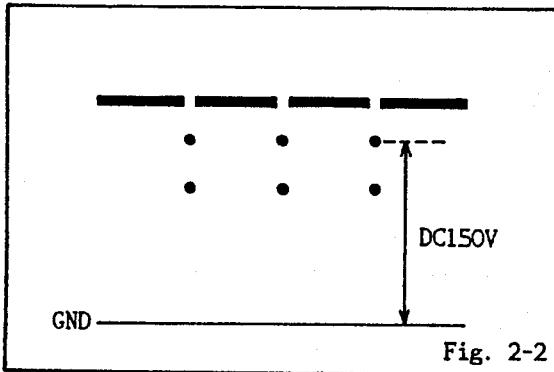

Fig. 2-2
4. Adjust the Screen control until voltage will be DC150V. (Refer to Fig. 2-2)